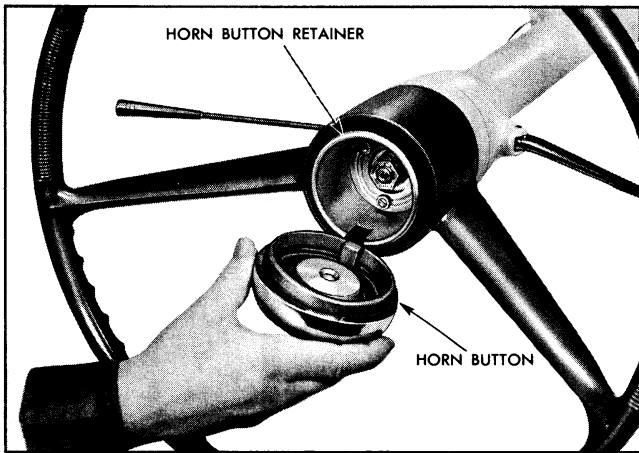

Fig. 9-7 Removing Standard Steering Wheel Horn Button
1. Remove horn button (Fig. 9-7).